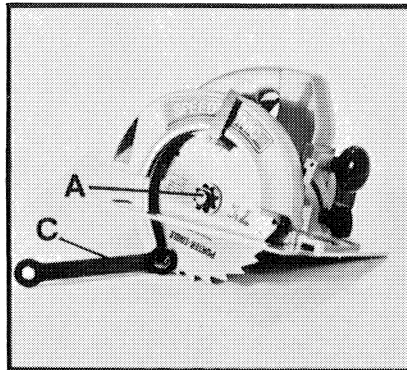

Fig. 3
6. Retract the blade guard and place the saw on a piece of scrap lumber, as shown in Fig. 3. Press down on the saw so the teeth of the saw blade dig into the wood and with the wrench (C) Fig. 3, tighten the blade screw (A), turning it clockwise, until the spring on the blade screw begins to depress.
3. Remove the blade screw by turning it counterclockwise, with the wrench (C) Fig. 3, furnished with the saw.